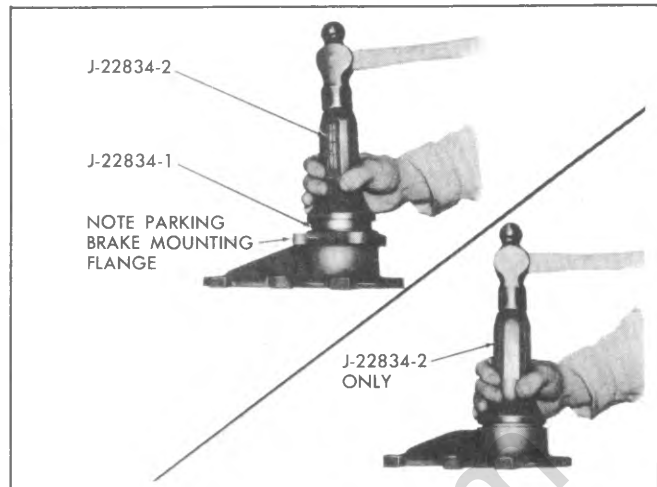

Fig. 7B-16--Replacing Rear Bearing Retainer Oil Seal
- f. Coat outer diameter of new oil seal with sealing cement. Install oil seal in rear bearing cup using a suitable installer. Drive seal flush with outside of rear bearing cap, being careful not to damage seal. Use Installer J-22834 with Adapter J-22834-1 as required, as shown in Fig. 7B-16.